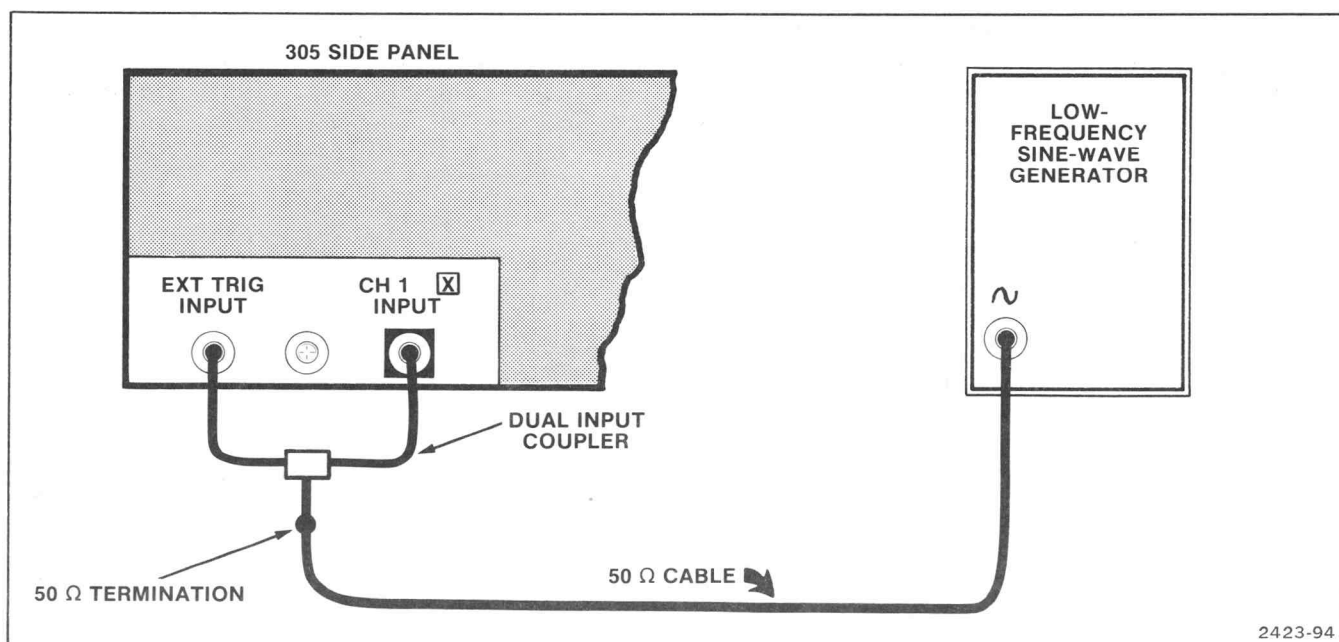

Fig. 6-6. Trigger test setup.
a. Connect a low-frequency sine-wave generator as shown in Fig. 6-6 and set the output for a 500 Hz, 6 vertical division display.